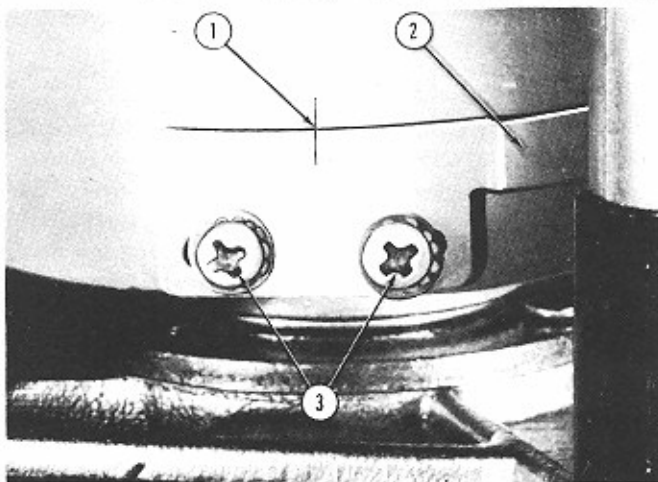

Fig. 58. TIMING OF MUTE AND PLAY SWITCH
e. Mute and Play Switch Adjustments. (Figs. 58, 59 and 60)
permit advance or delay in the action of the mute and play switch. Figure 58 shows index lines that appear on the main cam and the mute and play cam. An adjustment of the cam as shown is accurate in the majority of cases, however, the following method may be used for this adjustment:
the mute and play switch is stopping the mechanism, in its play position, too early. In this case move the cam lobe (Fig. 58) slightly in the direction opposite to the rotation of the main cam. Also observe the turntable cam when the mechanism 'stops' in the play position. If there is any reverse action of the turntable cam at the play position, the mute and play switch is stopping the mechanism too late. In this case move the cam lobe (Fig. 58) slightly in the direction of rotation of the main cam. It may be necessary to repeat one or the other of these operations to insure the best play position and provide maximum freedom of the tone arm for compliance with the record grooves.